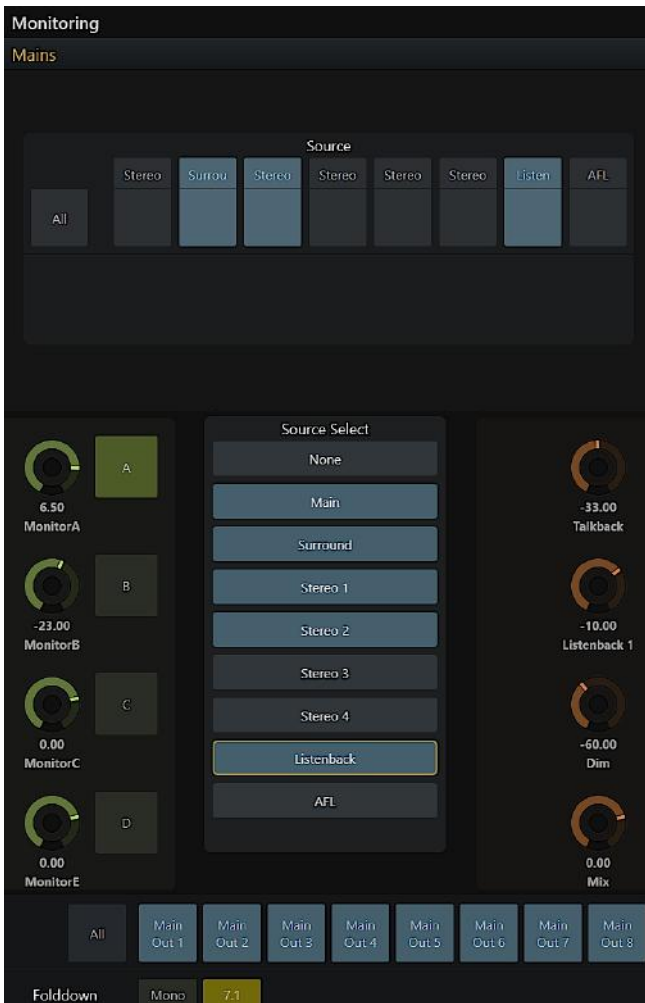

Figure 43. Monitoring screen with Sources on and off
- Blue sources are on, dimmed sources are off. In Figure 43 Surround, Stereo 1, and Listenback are on.